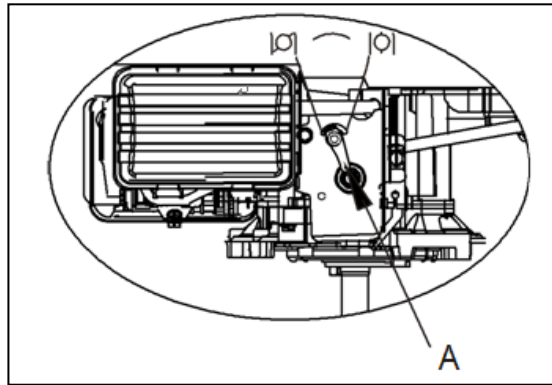

Fig. 2B A. throttle control
c) Move the throttle control to the choke  position. (Fig 2B)